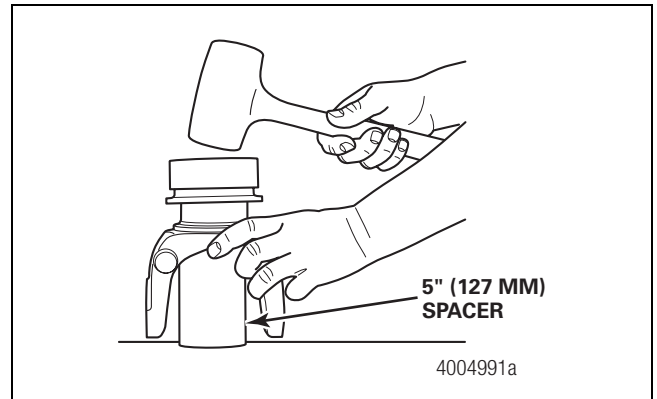

Figure 6.33
- **If you do not have a press:** Position the yoke on a five-inch (127 mm) spacer on a workbench. Use a dead-blow hammer and the appropriate driver to install the sleeve into the yoke. Figure 6.33.